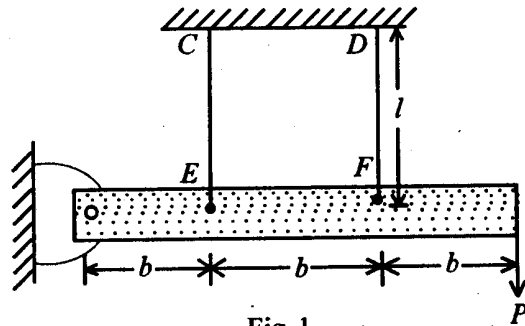

Fig. 1
- (b) A horizontal bar AB , assumed to be rigid, is supported by two identical wires CE and DF (Fig. 1). If each wire has cross-sectional area A , determine the tensile stresses σ_1 and σ_2 in wires CE and DF , respectively. 12